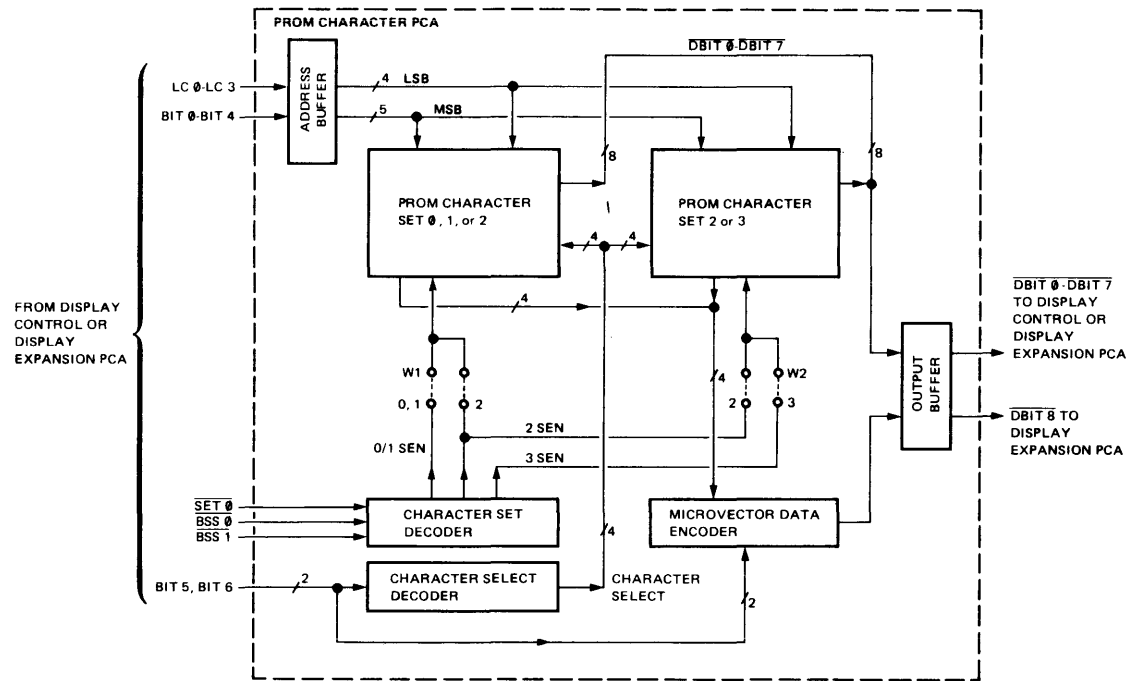
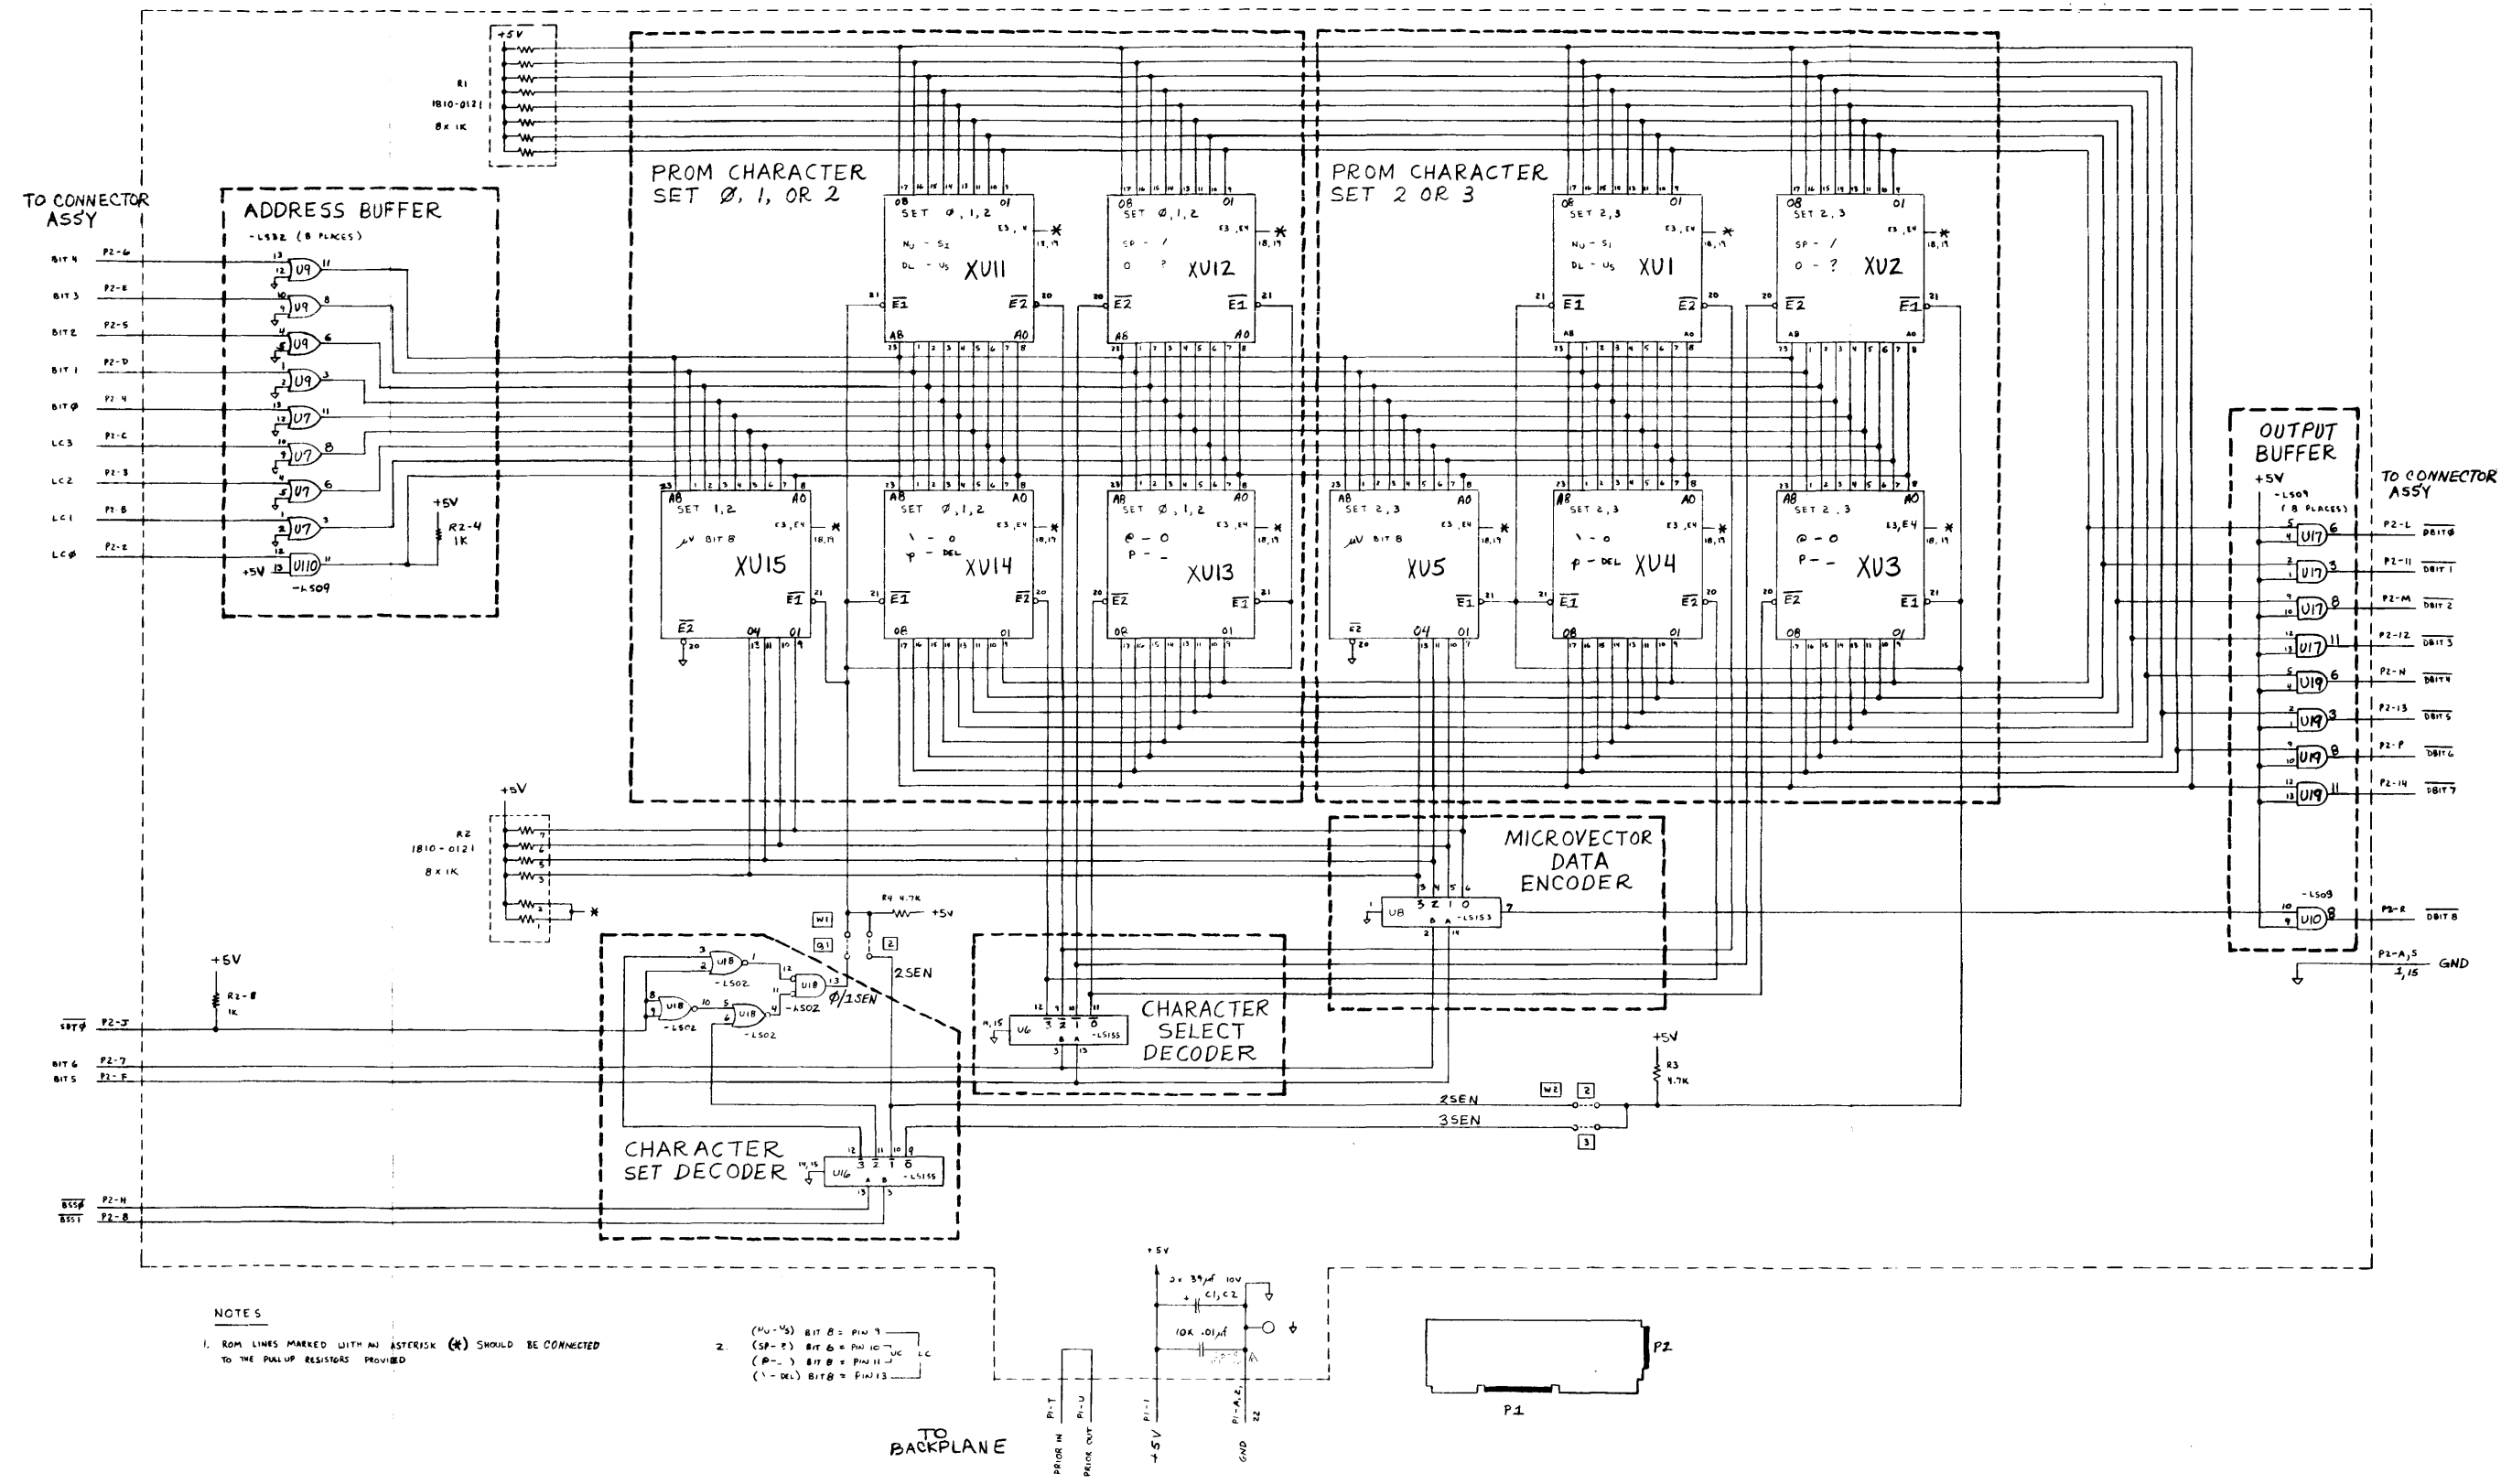

Figure 1
Figure 2
3.0 FUNCTIONAL DESCRIPTION. Refer to the block diagram (figure 1), schematic diagram (figure 2), timing diagram (figure 3), component location diagram (figure 4), and parts lists (02640-60053 and 02640-60070) located in the appendix.